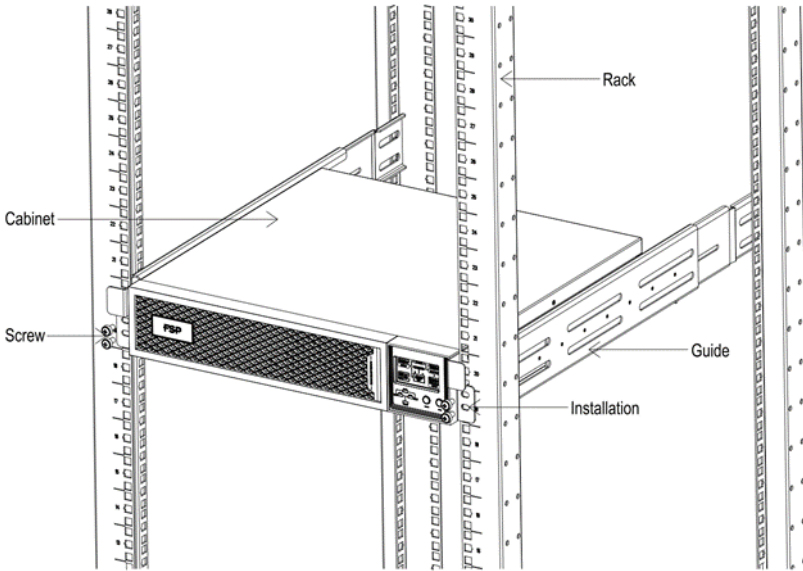

Figure 5-8 Install the cabinet
- 2) Place the cabinet on the guide rails of the rack (Prohibit move the cabinet by the mounting ears), push the cabinet in until it cannot be pushed in anymore, and fix the cabinet to the rack through the installation holes 2 on the mounting ears, as shown in Figure 5-8.